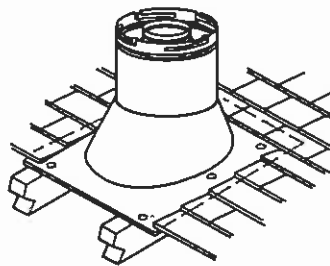

Figure 24
I. Install the roof flashing - Extend the vent sections through the roof structure. Install the roof flashing over the vent section and position such that the vent column rises vertically (use carpenter's level) (*Figure 24*). Nail along perimeter to secure flashing or adjust roofing to overlap the flashing edges at top and sides only and trim where necessary. Seal the top and both sides of the flashing with waterproof caulking.